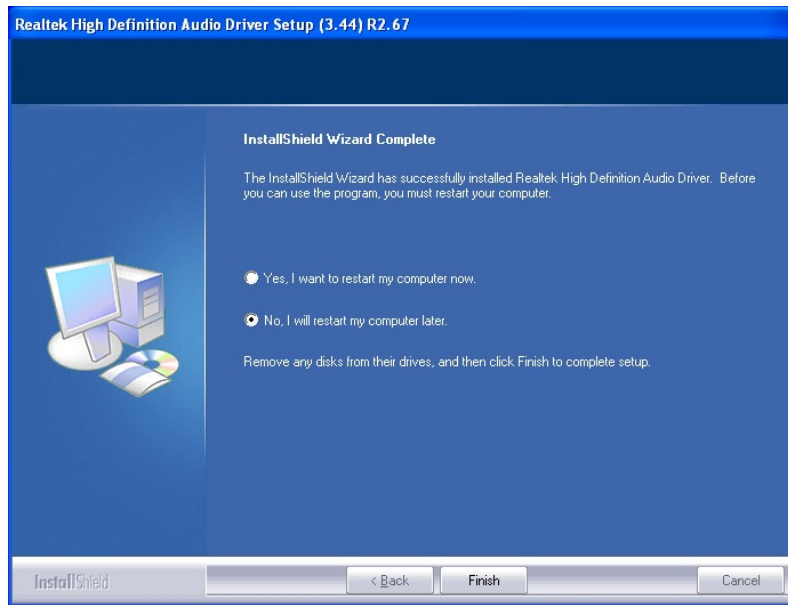

Figure 6-22: Restart the Computer
Step 8: After the driver installation process is complete, a confirmation screen appears (Figure 6-22).